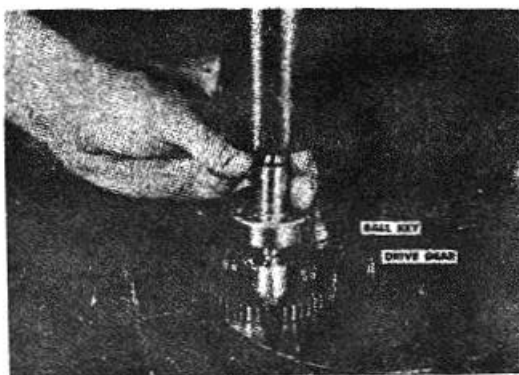

Figure 4-45. Press on governor drive gear.
5. Assemble the ball key to the drive shaft with a drop of heavy grease to hold it in place and press the governor drive gear up to the drive shaft bearing. Fig. 4-45.